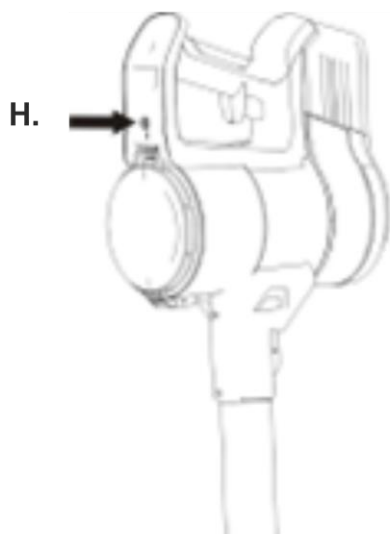

FIGURE 3A
Buttons and charging ports - look at figures 3A, 3B and 4 LED touch screen (B) icon description - see Figure 6A-G.
B.II. Airflow icon - the icon lights continuously during normal operation of the unit and flashes when airflow is blocked. When it flashes, turn off the unit and remove dust from the dust container (14).
B.III. Battery charging icon - this icon lights up continuously during normal charging process. When it blinks, something is wrong with the charging process, check the power supply (5).
Charging method 1 - look at Figure 3A: